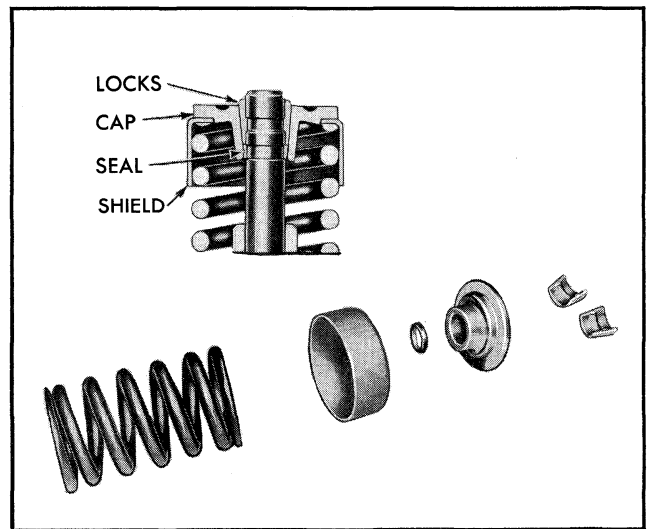

Fig. 6-38 Valve Installation
1. Starting with No. 1 cylinder, place the exhaust valve in the port and place the valve spring and cap in position. Place spring and rotator on exhaust valves. Then using suitable spring compressor, compress the spring and install the oil seal and valve keys. See that the seal is flat and not twisted in the valve stem groove and that the keys seat properly in the valve stem groove (Fig. 6-38).